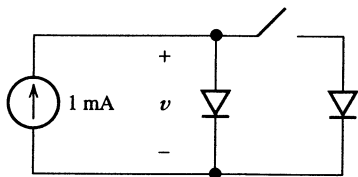

Figure P3.77
3.77. Consider the circuit displayed in Figure P3.77. The diodes are identical and have $n = 1$. The temperature of each diode is 300 K. Before the switch is closed, the voltage v is 600 mV. Find v after the switch is closed. Repeat for $n = 2$.